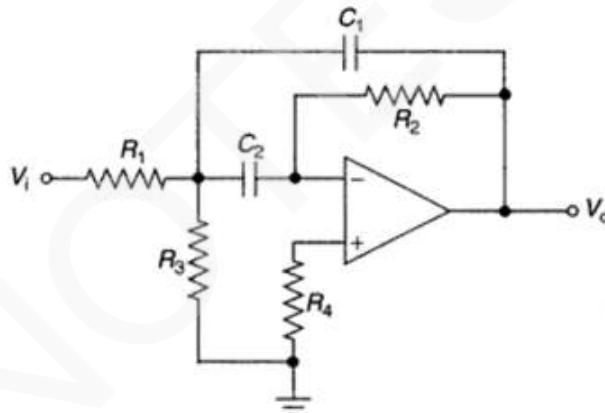

Figure 17.58: Narrow band-pass filter
- Here is how it works (Figure 17.58):